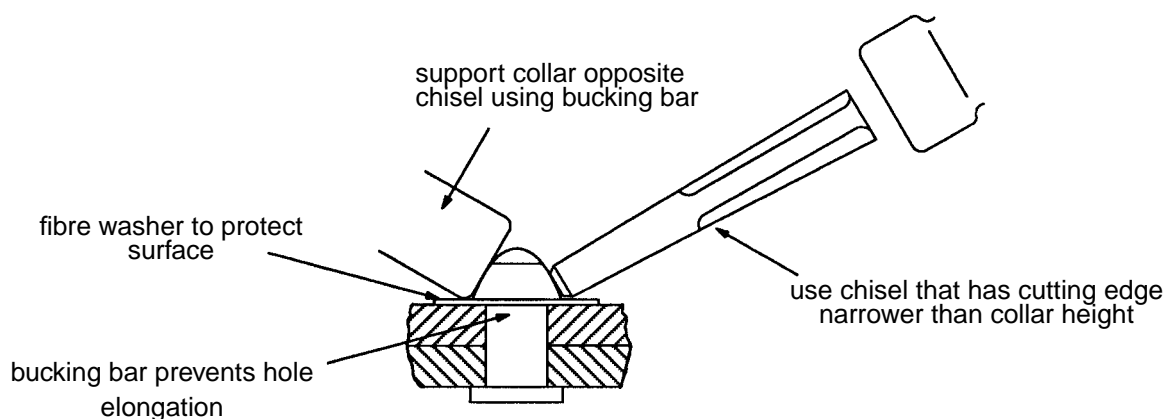

Figure 21 - Chisel Method Removal of Installed Hi-Shear Fasteners
5.9.1.4 Use of the chisel method, as follows (see Figure 21), is restricted to those instances where the structure prevents the use of the other methods of removing installed fasteners: